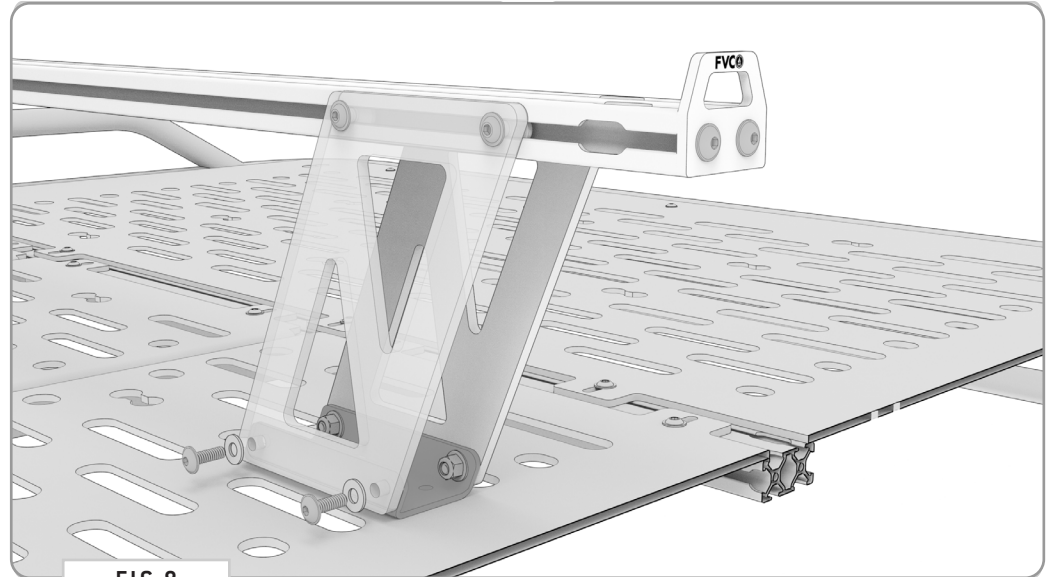

FIG 8
4.1 Attach High Bar to Crossbar: Take the assembled High Bar and position it against the surface of the Decking Adapter. Attach using 1/4-20 x 0.75 Flanged Button Head Hex Drive Screws, Flat Washers and Nylon Locknuts (FIG 8).